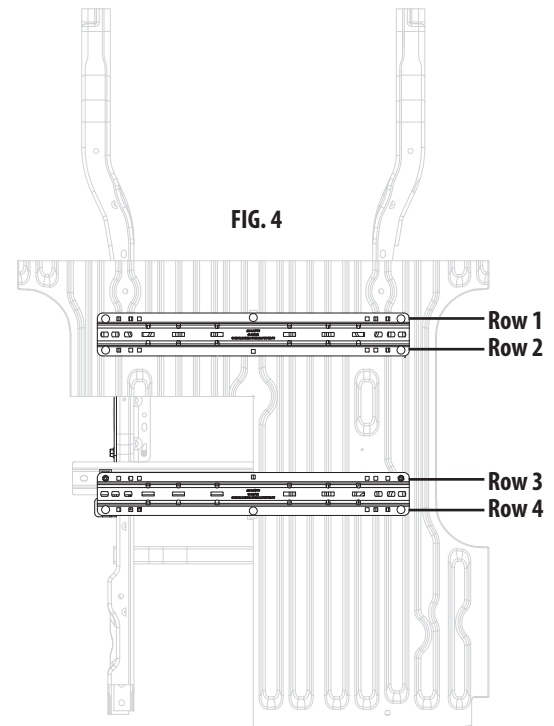

FIG. 4
4. Remove the frame brackets and enlarge the 1/8" holes to 9/16". Reinstall frame brackets and mount forward base rail using 1/2" carriage bolts, fill shims - small, 1/2" conical washers, and 1/2" nuts (hardware in 48630 bolt pack) for rows 1 & 2 (see fig. 4). Fill shims to be installed in the truck bed corrugation either between frame bracket and truck bed or between base rail and truck bed. Be sure to use galvanic isolator material at this step. Loosely tighten 1/2" bolts at this time.
7. Enlarge 1/8" holes to 9/16" being careful not to drill through the mounted frame brackets below. Mount rear base rail using 1/2" carriage bolts, fill shims - small, 1/2" conical washers, and 1/2" nuts (hardware in 48630 bolt pack) on row 4 (see fig. 4). Fill shims to be installed in the truck bed corrugation either between frame bracket and truck bed or between base rail and truck bed. Be sure to use galvanic isolator material at this step. Loosely tighten 1/2" bolts at this time.